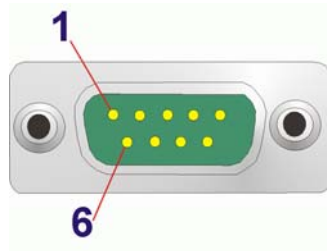

Figure 3-17: DIO Connector Pinout Location
- CN Pinouts:** See **Table 3-1** and **Figure 3-17**